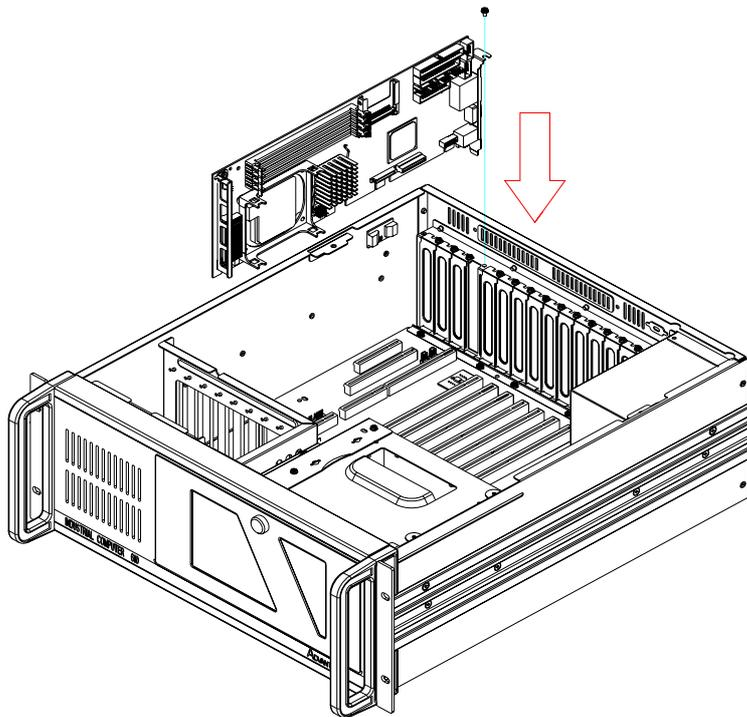

Figure 2.5 Installing a full-length card
2. Insert the CPU card (with CPU, CPU cooler, RAM, and necessary cables installed) or add-on card vertically into the proper slot. For full-length CPU card, please make sure that the card bracket has been inserted properly and the other edge of the card has been inserted into the plastic guiding fillister. Fasten the screws on the top of both brackets of the card. (See Figure 2.5)